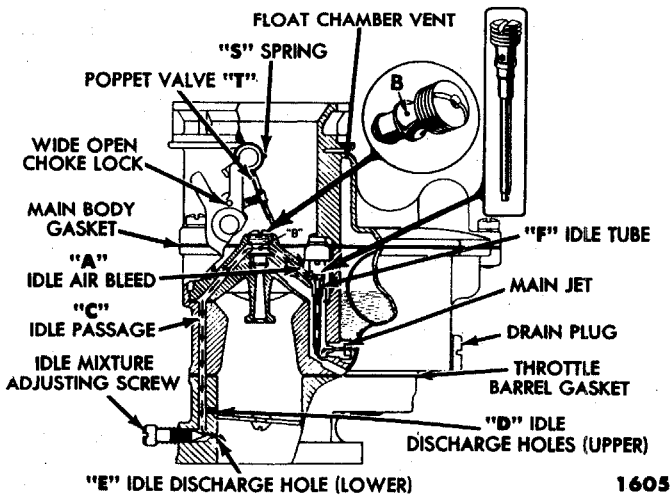

Fig. 28—8-Cylinder Carburetor Idle Fuel System
(1) **IDLE FUEL SYSTEM.** The idling system for the different Ford carburetors are illustrated in figures 28 and 29.